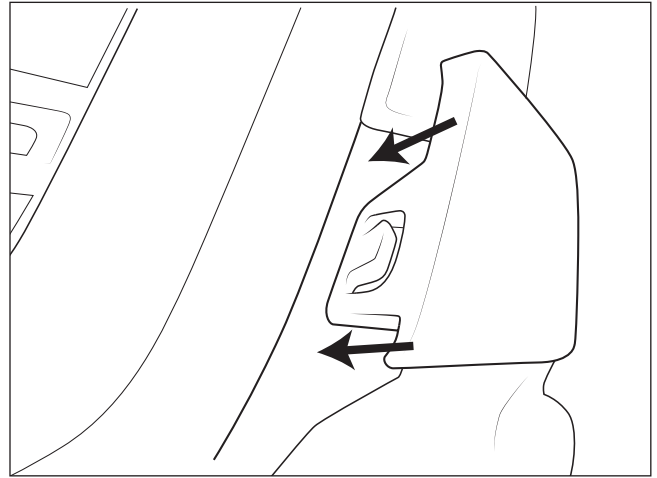

Figure 5
B. Snap the inboard side of the Headlamp Filler Panel into the grill (fig. 5).